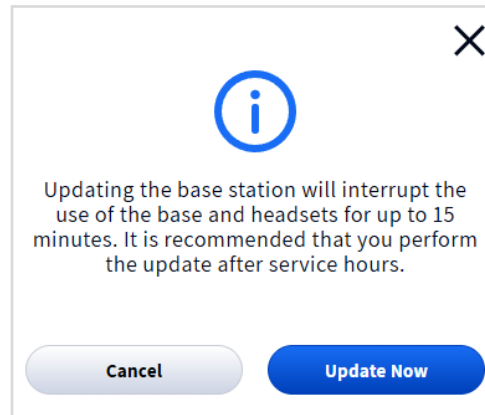

Fig. 6.7
5. A prompt appears (Fig. 6.7) informing you that the update will interrupt the use of the base station and headset and takes up to 15 minutes to update. Tap/click the “Update Now” button to continue. The update begins and provides a progress status. The red exclamation mark also disappears. Or, tap Cancel if you decide to update at another time, perhaps after hours or during slower business hours.